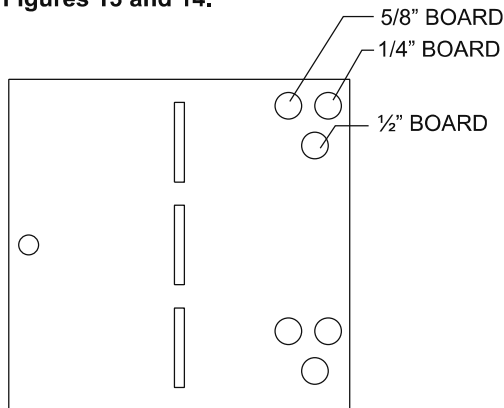
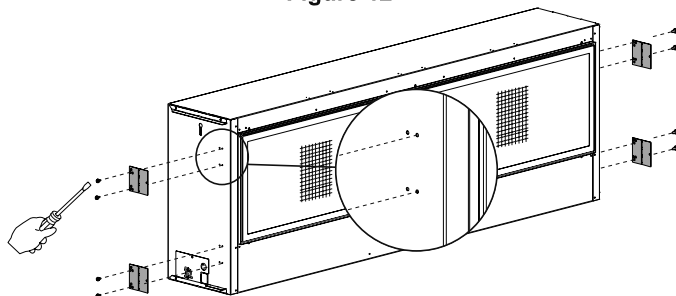

Figure 12
Figure 13 - OPTION 1
2. The holes in the nailing flanges allow for different thickness boards and depths of wall boards. See **Figure 12**. Install nailing flanges with two 10 x 12 screws (each) in pair of holes closer to the face of the fireplace. Leave the nailing flanges flat until after the fireplace is lifted into the framing. See **Figures 13 and 14**.